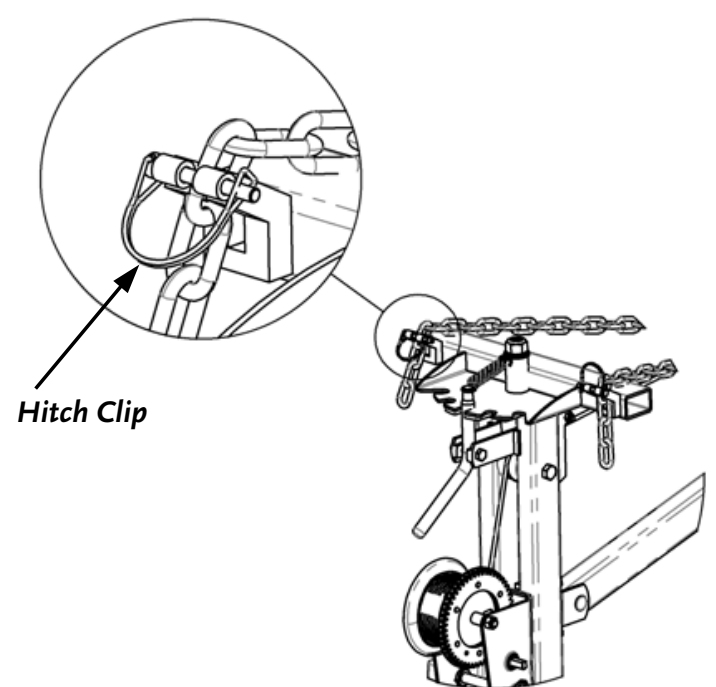

Figure 51
**NOTE:** The Chains for the Boom need to be adjusted to the ideal length for the Dumping of the Bed. Adjust the length of the Chains so the 10th link of the Chain (from the end of the Chain) is captured and securely pinned in place, with the supplied Hitch Clips, on the Boom Pivot. It is recommended to have the assistance of one other person to support the weight of the Crane while you adjust the length of the Chains individually. Remove one Hitch Clip, adjust the Chain, then re-seat the Chain in the Retainer on the Boom Pivot and re-insert the Hitch Clip (**Figure 51**). Repeat for the other Chain to have the Boom centered on the Trailer and ready for dumping.
- Always stand on the Crank Handle side of the Winch (**Figure 51**), never directly in line with the Winch Cable, and always behind the Operator Guard! If the Winch Cable is kinked, frayed, or otherwise damaged, do not use it. Replace the Cable immediately.